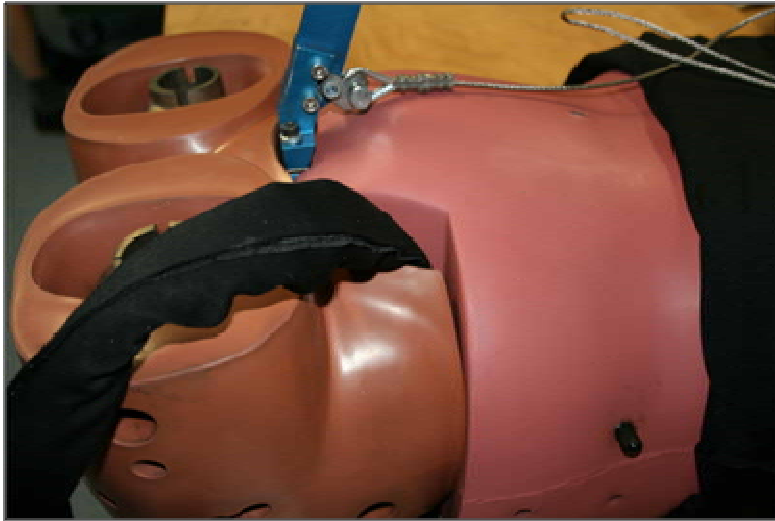

Figure 25 - Cable Bundle Exit
4. Exit the entire bundle between the jacket and the top of the pelvis. Figure 25 shows an example of the entire cable bundle exiting the dummy.